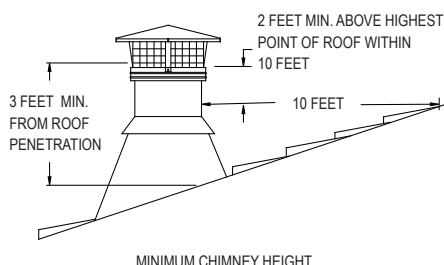
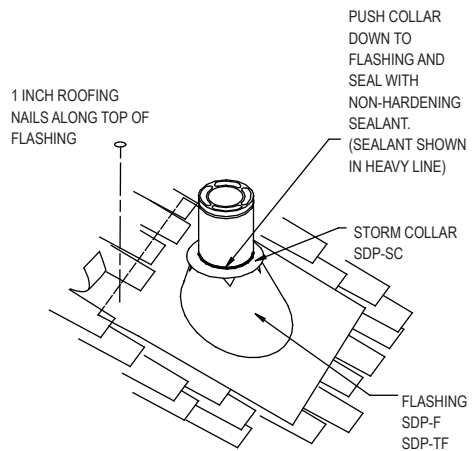
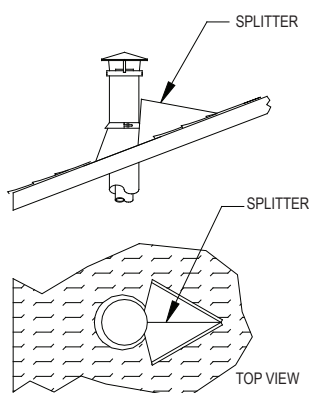

Figure 1
Figure 14
Figure 16
The National Fire Protection Association Standard #211 states: "Chimneys shall extend at least three feet above the highest point where it passes through the roof of a building, and at least two feet higher than any portion of a building within ten feet." (**Figure 1**).
9. Attach Flashing: In new construction, assemble the Chimney Sections to a point above the roof, then slip the Flashing over the chimney. On an existing roof, center and install the Flashing before extending the chimney above the roof. Allow space to permit sliding the next Chimney Section up through the Flashing. Always insure the chimney remains vertical, and that at least a 2-inch clearance to combustible materials is maintained all around. Install the upper edge of the Flashing under the roofing. Nail to the roof along the upper edge and the upper half on each side with 1-inch roofing nails. Do not nail the lower edge of the Flashing, or the lower half of the sides. (**Figure 14**). Seal all nail heads with a non-hardening waterproof sealant. On flat or tarred and graveled roofs, nail and seal the Flat Roof Flashing to the roof on all sides with roofing compound. Do not put screws through the Flashing into the Chimney Pipe.
chimney above the Flashing, and also along the vertical seam of the chimney pipe, which is exposed to the weather. **(Figures 14 and 15)**. Slide the Storm Collar down over the chimney to the top of the Flashing. Tighten and seal the Storm Collar against the sealant. After installing sufficient Chimney Sections to meet the height requirement, **(Figure 1)**, snap the Chimney Cap onto the top of the chimney. The Chimney Cap can be removed for chimney cleaning as described in the Chimney Maintenance section of the instructions. Use an Extended Roof Bracket if the chimney extends more than 4 feet above the roof. **(Figures 18, and 19)** in the Extended Roof Bracket section. If you are located in heavy snow country, a “splitter” should be fabricated from heavy gauge sheet metal, and installed. **(Figure 16)**. This will route the snow around the chimney, and protect it. This item is not furnished by DuraVent.